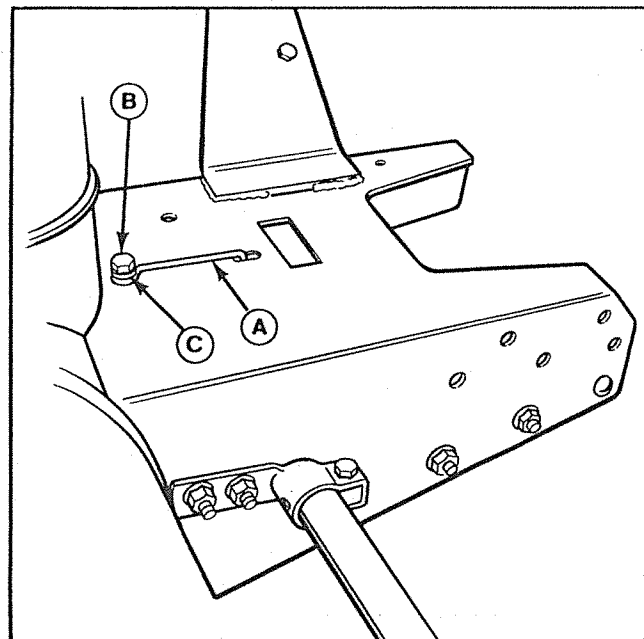

Figure 19. Snowthrower Pulley Belt Stop
10. Install the two spacers (M) as shown with two capscrews (L), lockwashers (N) and nuts (O).
12. Insert the belt stop (A, figure 19) thru hole in snowthrower and position as shown. The belt stop leg (inside snowthrower) should be positioned over top of belt on snowthrower pulley. Install the belt stop with capscrew (T, figure 20), washer (S), lockwasher (Z) and nut (AA).